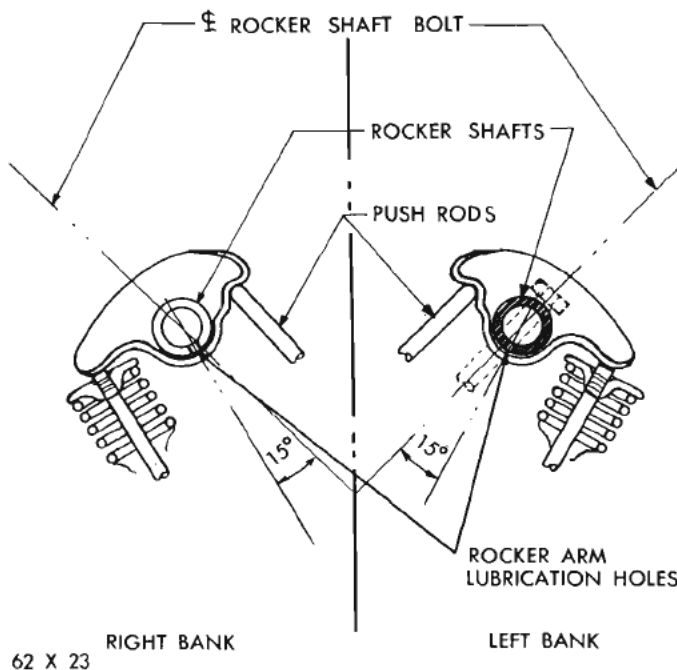

Fig. 66—Rocker Arm Lubrication Holes
(2) On 361, 383 and 426 Cubic Inch Engines only, install the rocker shafts so that the  $\frac{3}{16}$  inch diameter rocker arm lubrication holes point downward into the rocker arm, and so that the  $15^\circ$  angle of these holes point outward towards the valve end of the rocker arms (See Fig. 66).
(3) Install the rocker arms and shaft assembly making sure to install the long stamped steel retainers in the number two and four positions.
(4) Tighten the bolts to 25 foot-pounds torque.
(5) On 273 and 318 Cubic Inch Engines only, start the engine and run until normal operating temperature is reached.
(6) Adjust the tappets to .013 inch for intake and .021 for exhaust.
(7) Install the valve covers with new gaskets, tighten to 40 inch pounds torque.